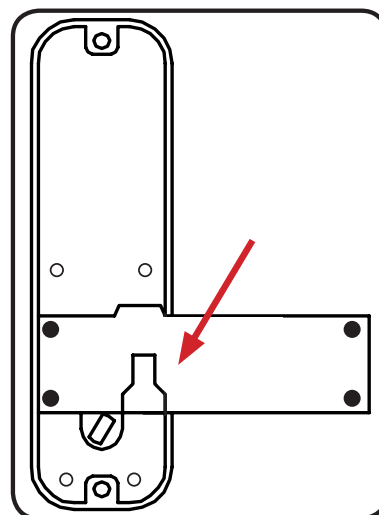

Fig.6
3. Horizontally flip the deadbolt over to as per **Fig.6**.